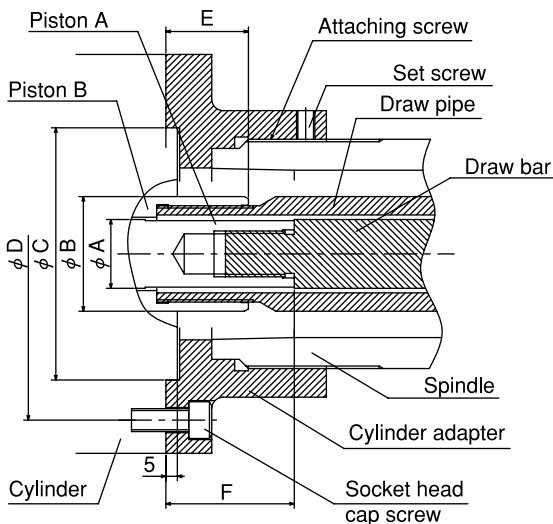

Fig.8 Cylinder adapter attaching part
- Bring the cylinder as close to the lathe spindle support as possible. The attaching method of the cylinder adapter and the measuring method of run-out are illustrated in the drawings below. (Fig. 8, Table 9)